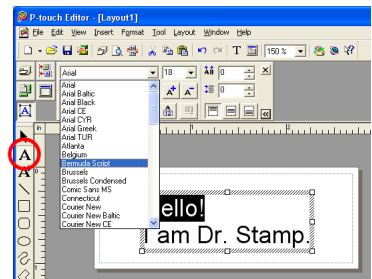

figure 3
- 3 From the "Font" drop-down list, select the desired font (see figure 3).